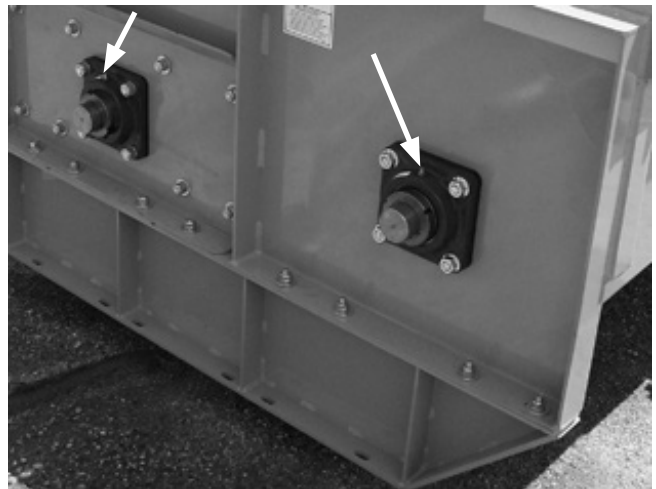

Figure 32. Rotor End Bearing Lubrication Point
2. Lubricate rotor end bearings. See Figure 32.